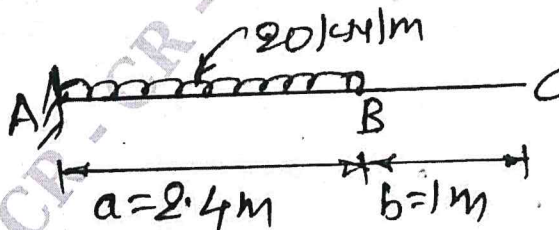

Fig Q3(c)
- c. For the cantilever beam shown in Fig Q3(c), compute the slope and deflection at the free end. Take $EI = 4 \times 10^{12} \text{ Nmm}^2$. Use Macaulay's method.